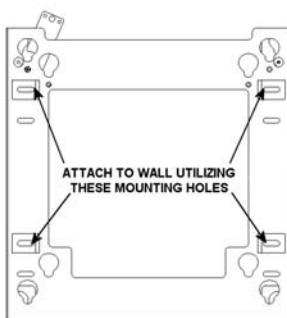
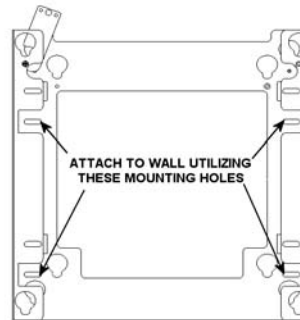

Figure 6
Figure 7
2. Mount plasma static mount onto wall using wall studs or supporting framework with the proper face of the mount away from the wall for your respective plasma (see WARNING, Figure 6, & Figure 7).